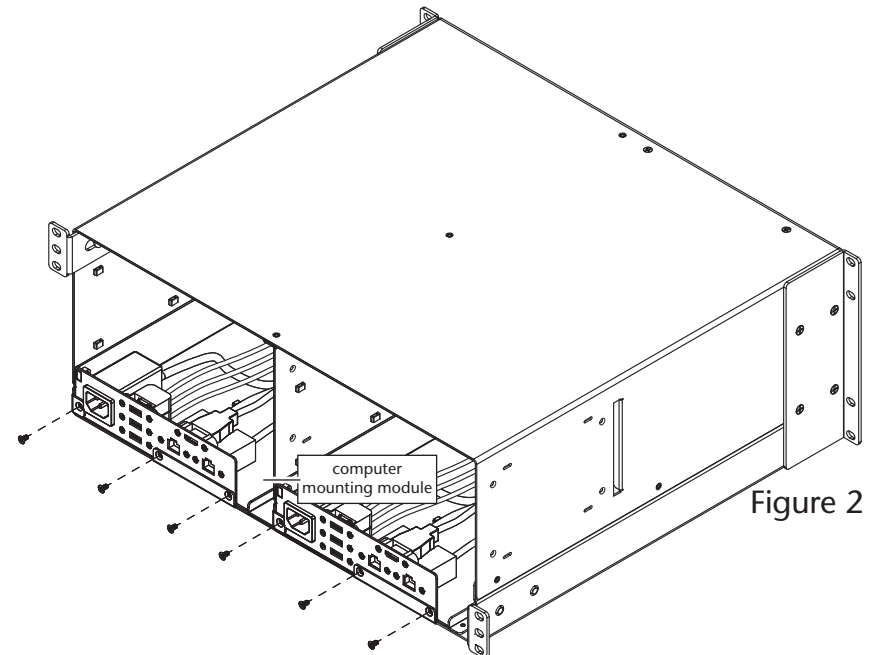

Figure 2
3. Using a Phillips screwdriver, remove and set aside the six screws securing the computer mounting modules to the rackmount enclosure (**Figure 2**). Set aside the screws.